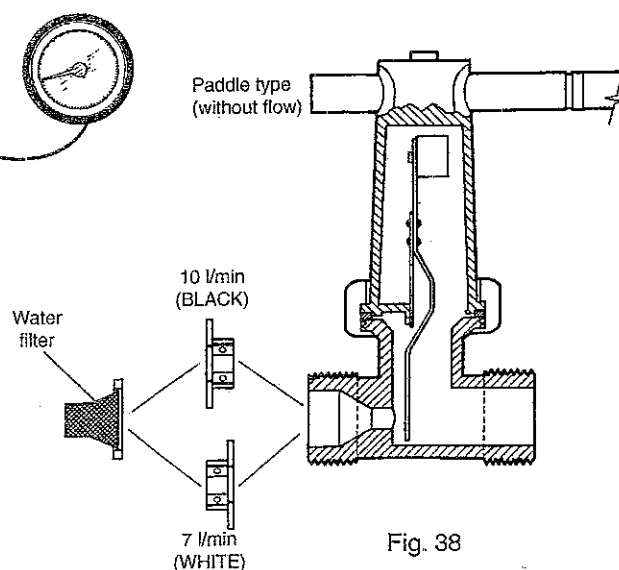

Fig. 38
- Re-assemble in reverse order, ensuring that the filter, flow restrictor and sealing washers are in the correct position (fig. 38)